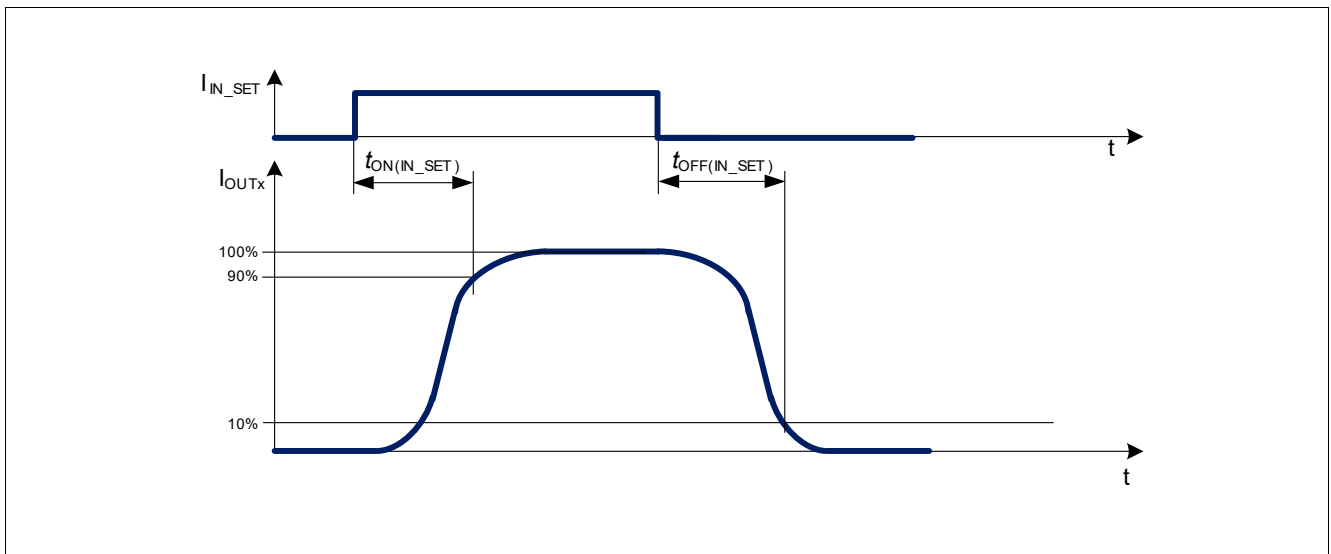
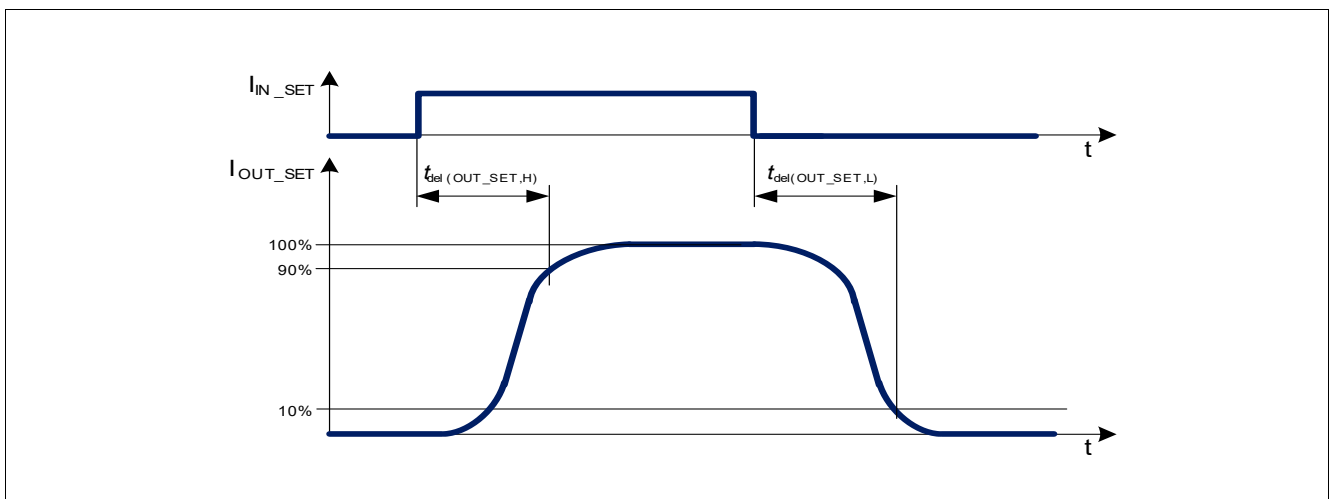
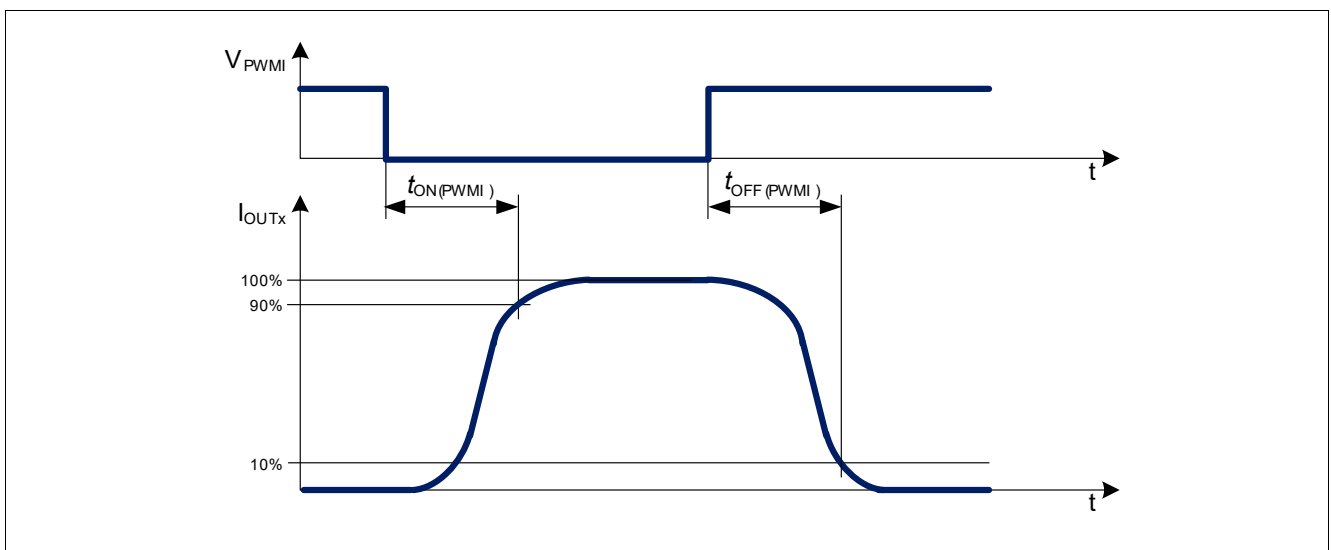

Figure 12 I_{IN_SET} turn on and turn off delay timing diagram
Figure 13 I_{IN_SET} to I_{OUT_SET} activation and deactivation delay timing diagram
Figure 14 PWMI turn on and turn off timing diagram
In the following diagrams (Figure 12, Figure 13, Figure 14) the influences of different driving inputs on output activation delays are shown.
- 2) Refer to Figure 12.
- 3) Refer to Figure 13.
- 4) Refer to Figure 14.